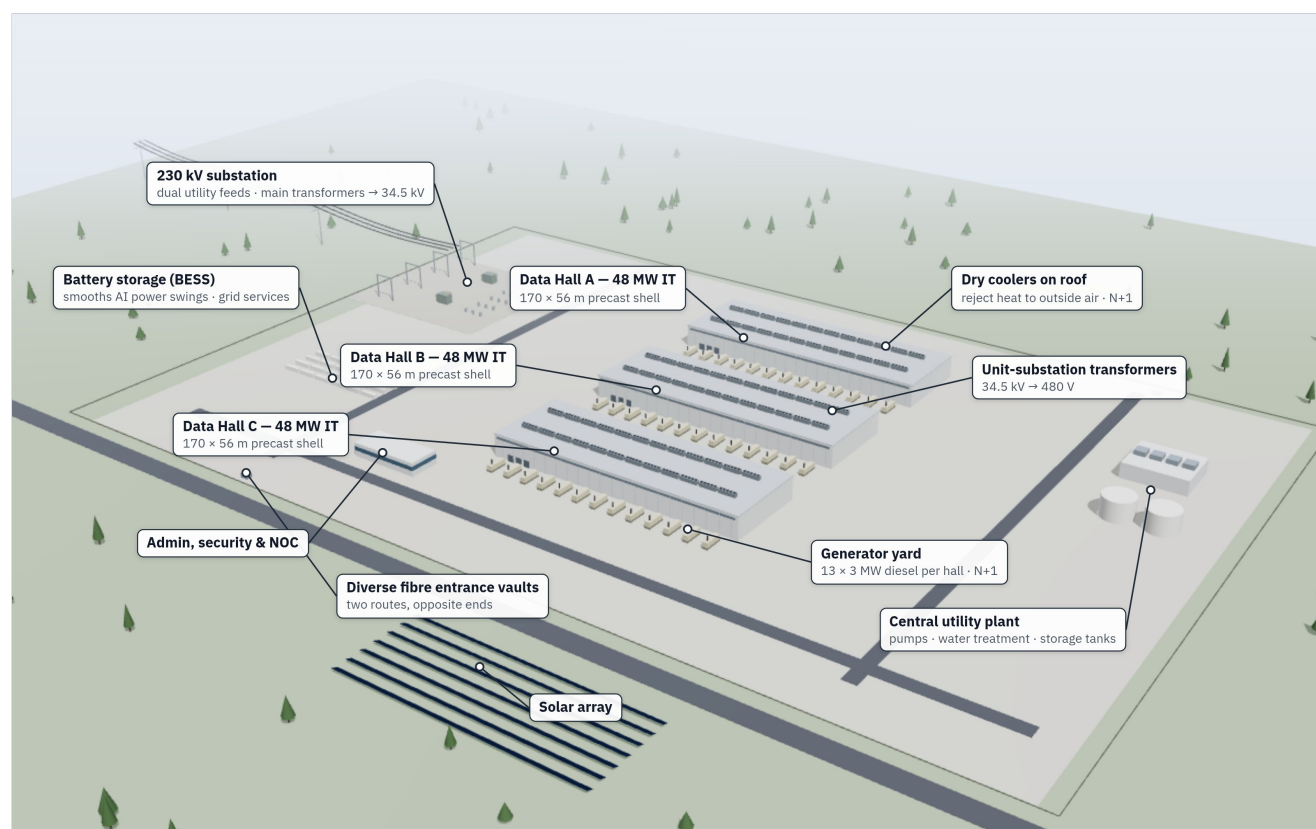

Figure 1 — A 144 MW AI campus seen from the air. Each hall has its own generator row and unit-substation transformers; dry coolers on the roofs reject the heat.
Figure 1 shows a typical AI campus: a 230 kV substation, three data halls, a generator yard beside each hall, a central utility plant, battery storage, an office and security building, and solar panels. The rest of this guide zooms into these pieces.
The campus in Figure 1 holds about 144 MW of computing load on roughly 60 hectares (150 acres). Campuses now under construction range from about 100 MW to several gigawatts on hundreds of hectares, but the layout pattern is the same everywhere: buildings for the computers, and an industrial yard of utilities to feed them.
- **Multi-hall campus.** Three to eight identical halls sharing a substation and a central utility plant, as in Figure 1.